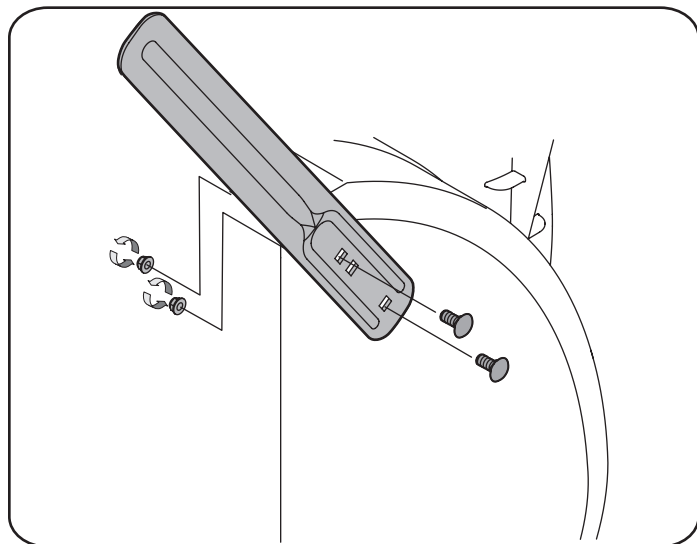

Figure 7
- Turn the drift cutters around and position them as shown in Fig. 7 to the outside of the auger housing.